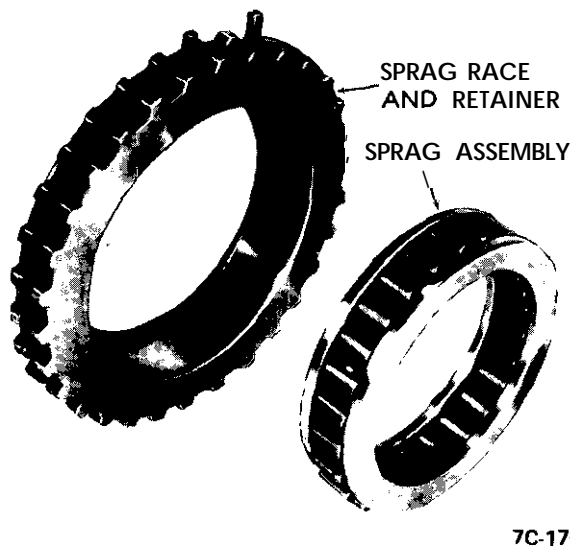

Figure 7C-170
4. Remove third clutch plates from third clutch drum. See Figure 7C-171. The plates should be kept in the same sequence as they were installed in the clutch.